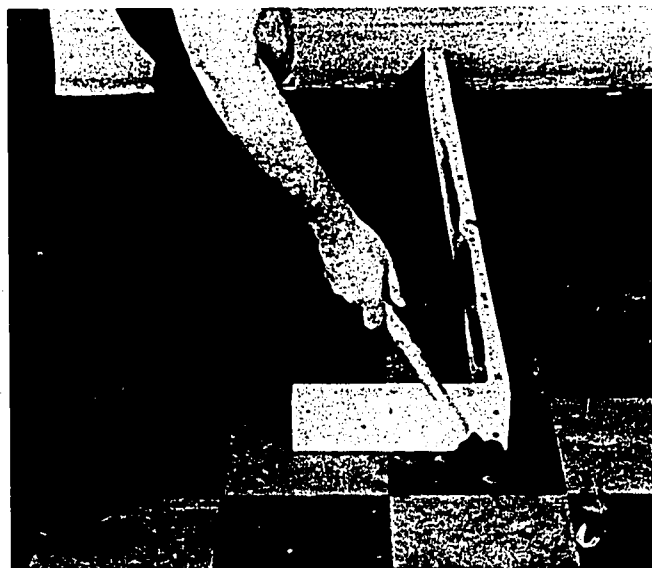

Fig. 87-2. Nailing Top Plates
3. Demonstrate nailing the top plate to the studs by placing the stud on the floor. See Fig. 87-2.